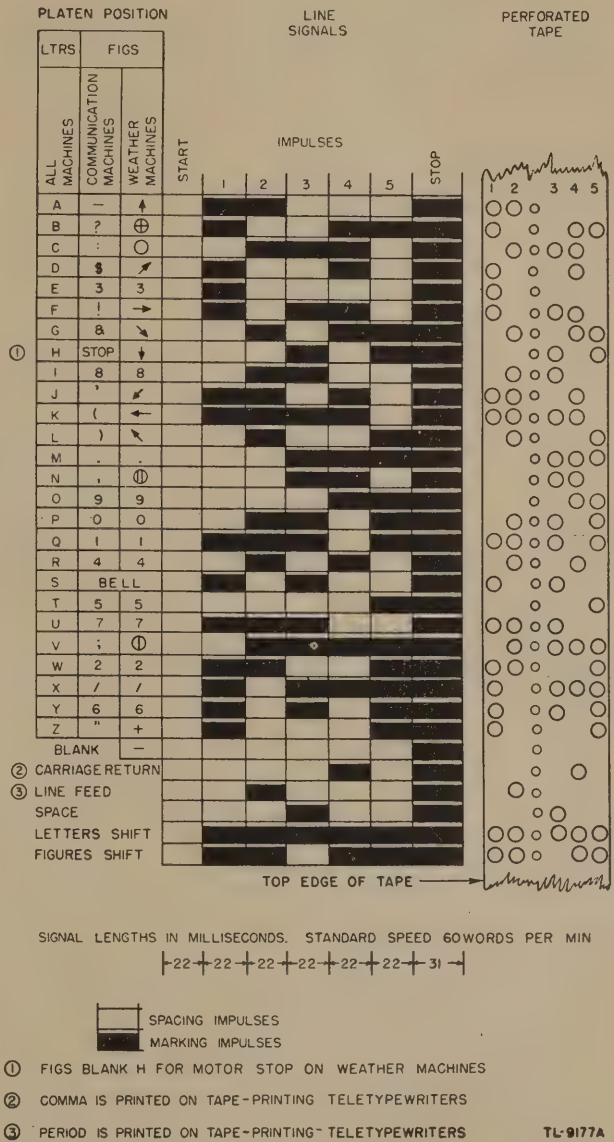
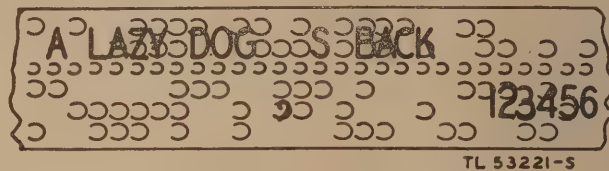

Figure 7. Teletypewriter code.
Figure 10. Chadless tape.
the receiving apparatus, as a steady impulse is necessary for correct operation of the receiving machine. When sending at 60 wpm (words per minute), assuming a standard five-letter word, the time for each unit signal impulse is 22 ms (milliseconds) (fig. 7). When the
b. The condition pictured on the diagram is that for the transmittal of the letter F. At the sending end of the circuit the positions of the sensing-pin contacts indicate that the perforated tape is punched in positions 1, 3, and 4 and not punched in positions 2 and 5 (fig. 7). This is the code for the letter F and is the same code that a depressed F keyboard key would make. As the brush arm makes its revolution, the sending relay will be inoperative during the start, 2, and 5 segments and operative during the 1, 3, 4, and stop segments. The shaded segments receive battery supply via the sending magnet and closed sensing-pin contacts, resulting in *mark* pulses over the line. The unshaded segments do not receive battery supply; this results in *space* pulses over the line. Mark pulses are current pulses; space pulses are noncurrent pulses.
Instead of transmitting from a teletypewriter keyboard, it is frequently of advantage to transmit automatically by means of perforated tape. (Portions of this tape are shown in the right side of figure 7 and in figure 10.) With this type of transmission, one or more operators may perforate tape as fast as it is convenient, and the previously prepared tape may be hand-fed through the automatic transmitter at a uniform rate, making use of the maximum speed capabilities of the circuits. The machine used for automatically transmitting from perforated tape is called a *transmitter-distributor*, normally abbreviated TD. In the TD, a tape transmitter using the perforated tape sets up the code combinations to be transmitted on a set of five contacts. A commutator distributor (which corresponds to a distributor in an automobile) connects the line of each of these contacts in proper sequence at a speed of 60 wpm. The signals are transferred to the line through a distributor brush revolving around a commutator face which is split into seven segments. The brush first passes over the start segment, sending a space impulse over the line. As it continues to revolve, it successively connects the five code segments to the line for a character. Then the brush reaches the stop segment and sends out the stop impulse, a mark. Thus, one character is sent per revolution of the commutator brush. The output signals of a
b. The typing reperforator uses a standard perforator tape which is eleven-sixteenths inch wide. A method of tape perforating known as *chadless perforating* is used to permit perforation of the tape in the same space that is occupied by the typewritten characters. The punchings, or chads, are not completely severed from the tape but remain attached to it at their leading edges to form lids over the holes (fig. 10). The legibility of the typewritten character is not impaired by this type of perforating because the perforating does not eliminate any portion of the tape.
The TD can handle both the chad and chadless types of tape. Chad tape (right side of fig. 7) is produced by a perforator with a standard teletypewriter keyboard. When a key is depressed, the desired code combination is recorded on the tape by perforating for the mark impulses and by not perforating for the space impulses. The start and stop impulses are not recorded on either type of tape. The small continuous line of holes in the tape (both chad and chadless types) are used to feed the tape through the perforator and the TD. The tape is read by moving it from right to left with two recorded impulses above the feed line and three below the feed line. The perforating mechanism consists essentially of a set of punches for perforating tape, a pair of punch magnets, and a punch hammer for operating the punches. Depressing a key positions six selector bars, five of which, through a series of lever actions, select the punches that are to be operated. The sixth selector bar closes the electrical circuit through the punch magnet, resulting in the punches being operated by the punch hammer. This type of perforator punches the tape clean.